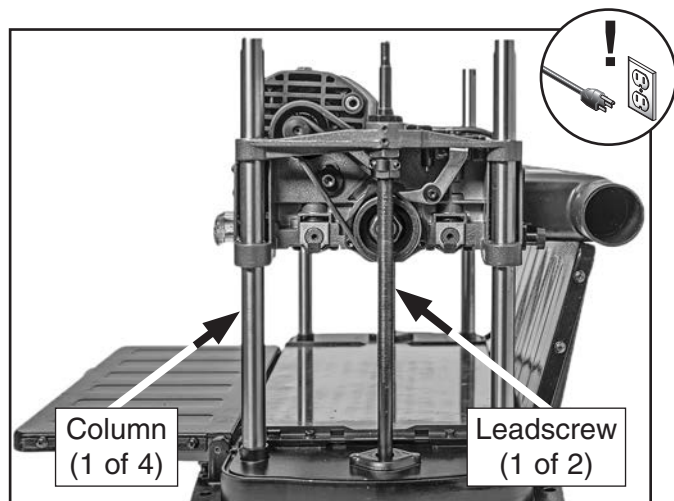

Figure 36. Location of cutterhead elevation leadscrews (G0939 shown).
2. Lower headstock fully and remove top and side covers to expose (2) leadscrews.
3. Vacuum chips and dust off leadscrews (see **Figure 36**).
5. Spray lubricant onto each leadscrew and column (see **Figure 36**), taking care to keep it off the belt. Move cutterhead up and down to evenly distribute.